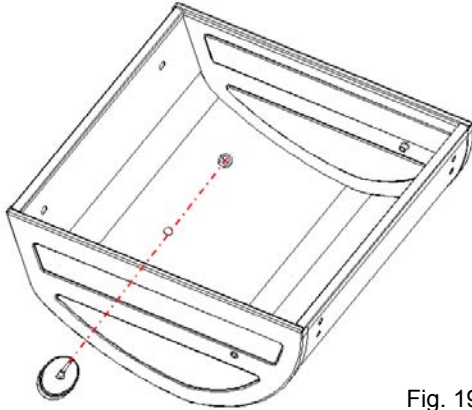

Fig. 19B
Place (1) Heat Indicator into the area in the center of Gas Grill Lid and fasten in place with the nut as shown as Fig. 19B.